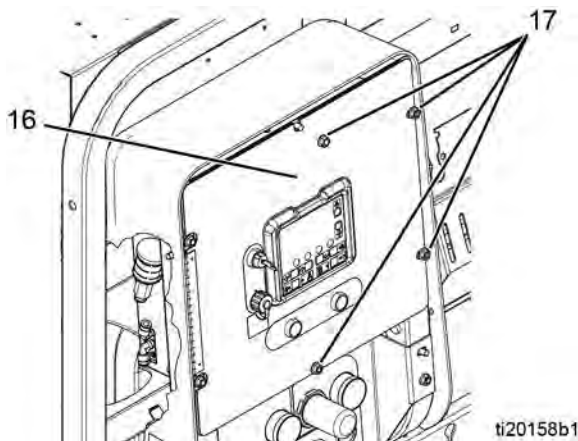

FIG. 3
2. Remove four nuts (21) and then remove front and rear shrouds (19, 20).
3. Remove four nuts (17); leave two nuts on left side of panel tight. Open front panel of control box (16). See FIG. 3.